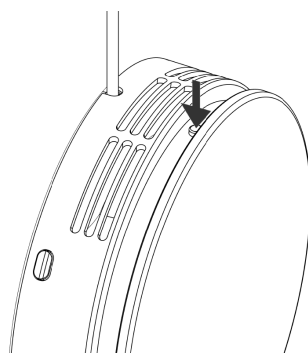

Figure 28 - Turn off the unit
1. Start by turning off the unit, see Figure 28 below. Wait 3 minutes until the unit has stopped rotating completely.